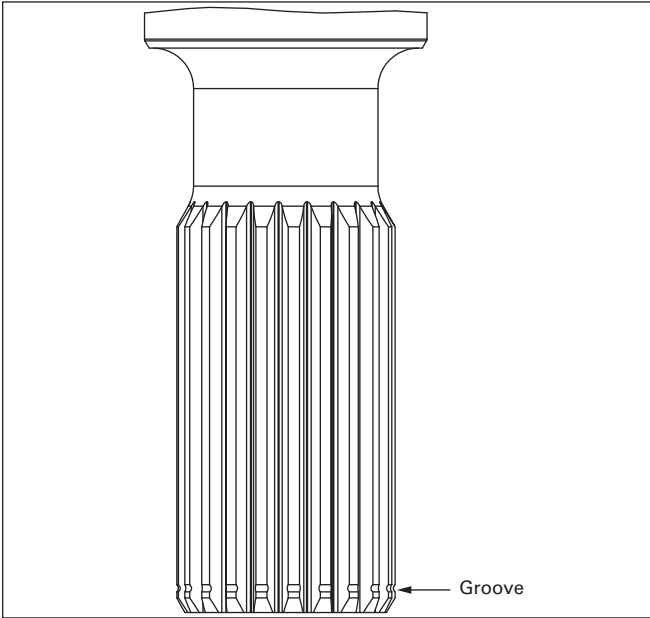

Figure 8. New shaft identification groove
- vii. Insert a new shaft seal spacer into the seal pocket. **At least 1 spacer must be used when using the dust seal to avoid contact between the dust seal and the shaft seal.** A maximum of 2 spacers may be used when replacing a shaft seal. A dab of grease or petroleum jelly may be used to hold the spacer(s) in place so that they do not fall into the retaining ring groove. The purpose of adding another spacer is to position the shaft seal in a new location on the shaft sealing area. If using the spacer, install the spacer between the shaft seal and the retaining ring. See Table 1 for determining how many spacers to use. This depends on whether you have an old or a new drive shaft configuration. New shafts will have a small circular groove machined in the major diameter of the input spline (Figure 8) or across the key way for keyed shafts.